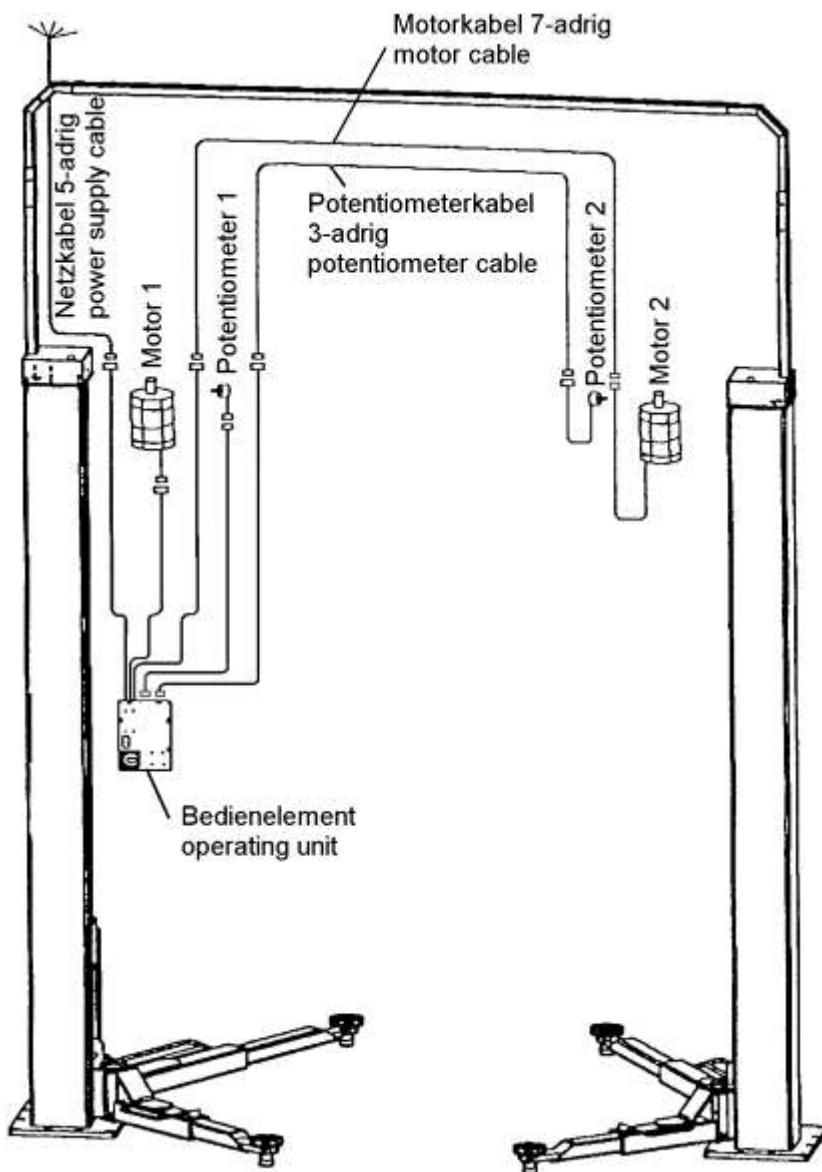

Figure 23: Cable path when using risers and cross-pipes
- Place the cable according to the drawing (Figure 23) into the riser and cross-pipe of the lift and feed together into the corresponding plug.